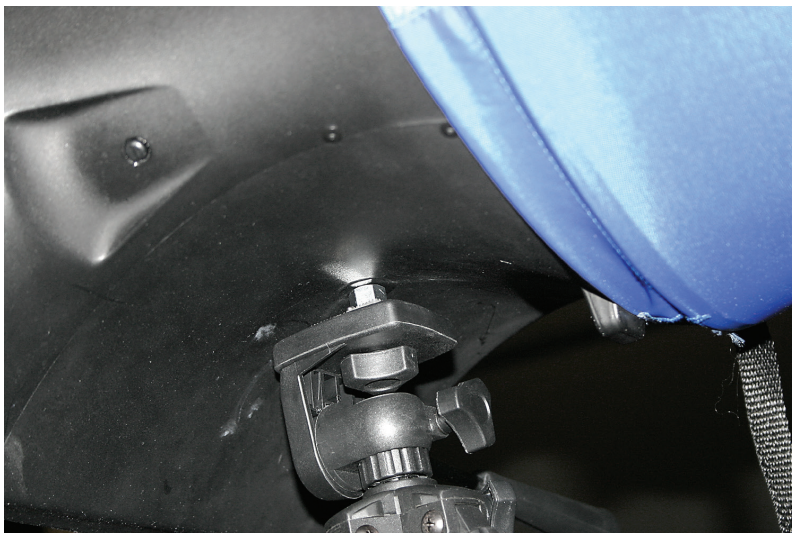

Figure 27: Mount Hood Base to Telescopic Stand
4. Mount the capture hood base to the telescopic stand by fastening the screw on the telescopic stand to the threaded insert mounted on the base opposite the display/manometer (see Figure 27).